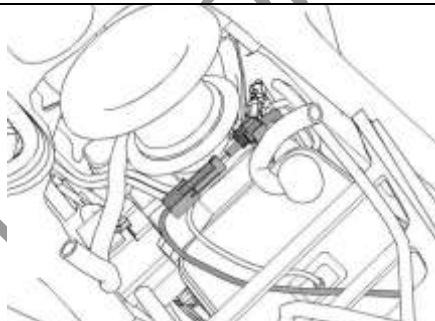

Figure 10
9. Connect the VIED O2 leads between the stock connectors like a short extension cord. Make sure the connections lock into each other. Use tie wraps to hold the VIED in place. (Figure 10)